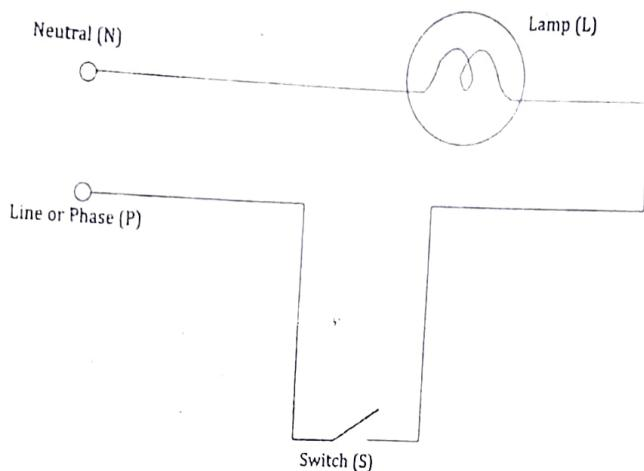

Fig.2.14 A lamp which is controlled by a single switch.
1. **A Lamp Controlled by a Switch :** A lamp controlled by a switch as shown in Fig 2.14. The main elements Lamp(L) and Switch(S) are connected with Neutral(N) and Line phase(P). In the circuit, Neutral is directly connected with Lamp(L) and the line or Phase(P) is connected through Switch(S).
- Case 1 :** If the Switch(S) is ON; the Lamp(L) will glow.